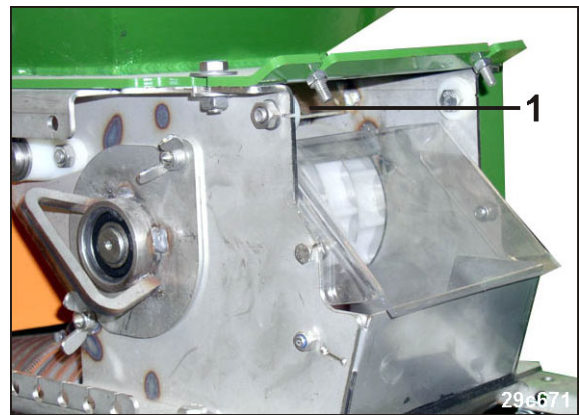

Fig. 121
2. Push the slider (Fig. 121/1) into the dosing unit up to the stop.